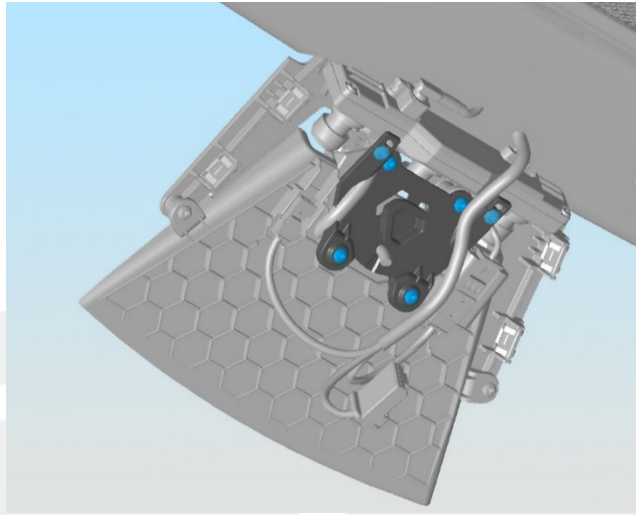

Figure 2
4. Release the 6 screws that secure the mirror mount plate to the glare shield (Figure 2). Discard the mirror mount plate. Allow the camera to hang by its harnesses.